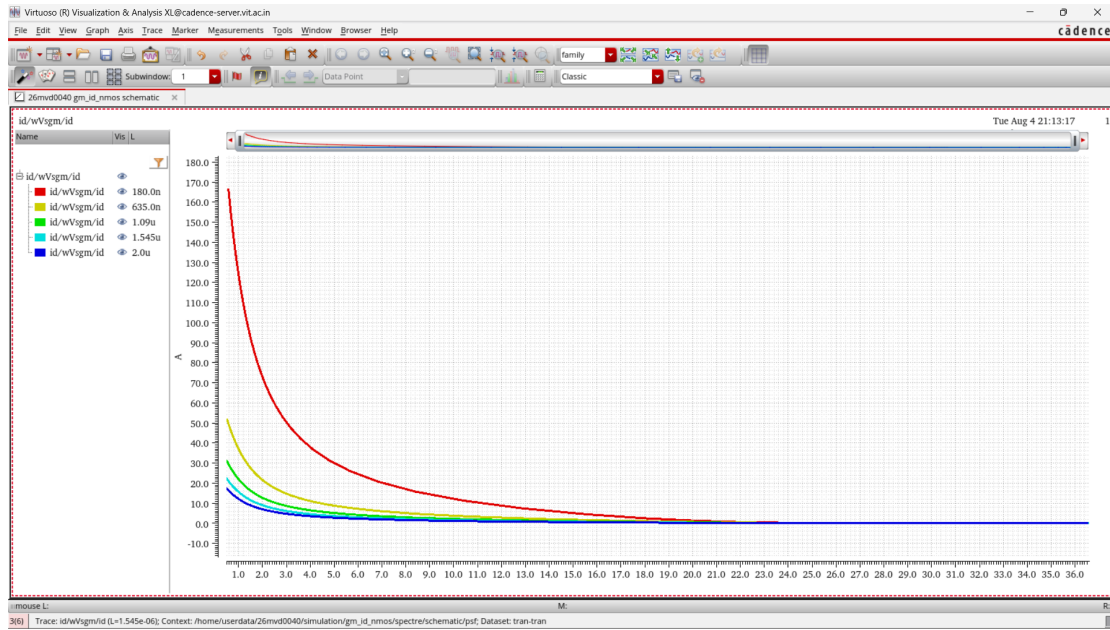

Figure 5: I_D/W v/s g_m/I_D for varying length plot for NMOS.
16. The simulation window opens with the plot of I_D/W v/s g_m/I_D for varying length as shown in Figure 5.